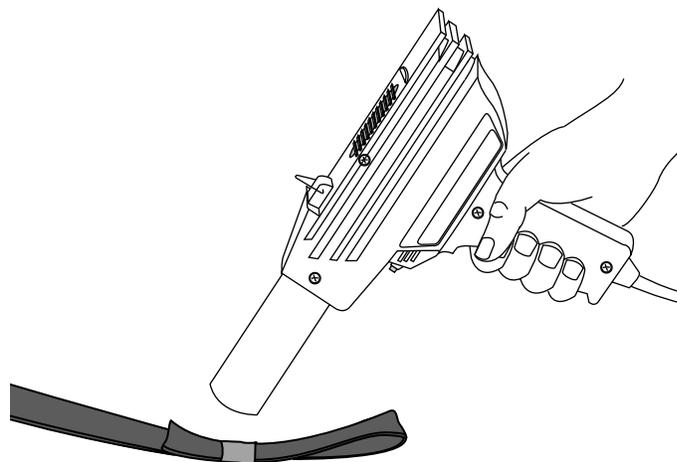

Figure 8
4.9 Slide a 1.75" in length heat shrink over the mesh loop and position it over the cable ties. Shrink the heat shrink into place (Figure 8).